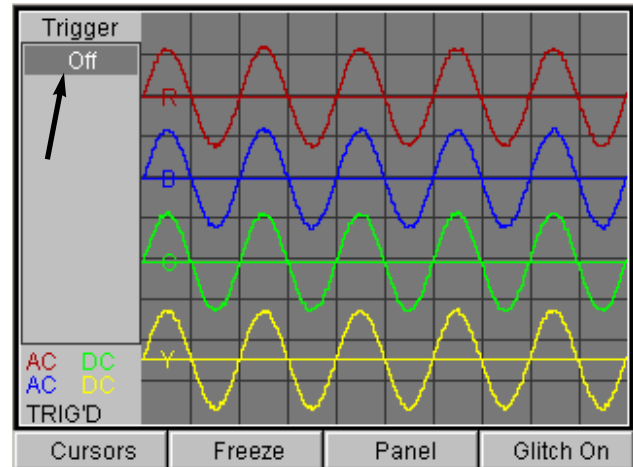

Figure 7.28: Lab Scope Screen, DMM Off - Trigger Pane Displayed
- 2 Display the Trigger pane by repeatedly pressing the **Trigger-Cursors-Time/Volts** function key until the label is "Cursors" and the Trigger pane is displayed, as shown in Figure 7.28.
- 3 Make sure the top field is selected as shown in Figure 7.28 (this field is always selected when you first display the Trigger pane).